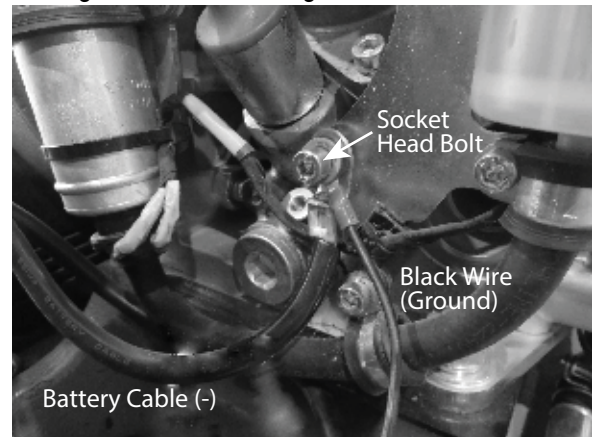

Figure 43. Ground Wire Connections
9. Secure the black wire (Ground) of wire harness (P/N 467358210) together with the battery cable (-) from the battery with existing socket head bolt at the rear side of engine as shown in Figure 43